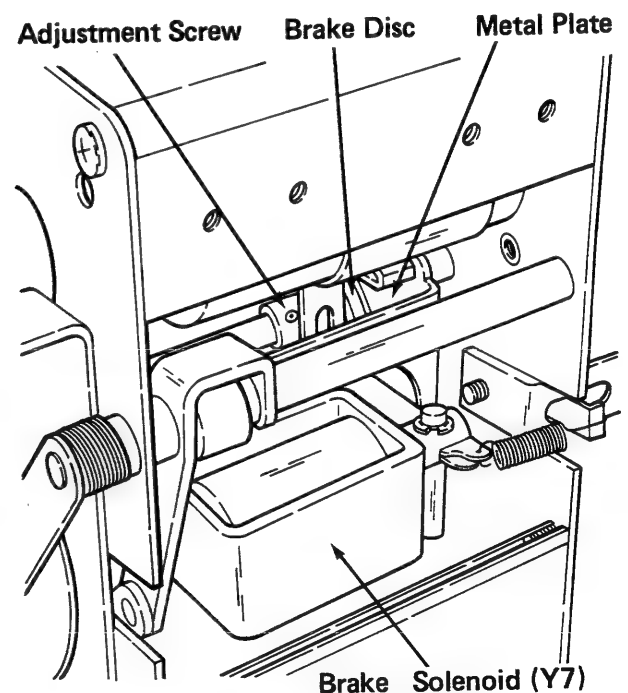

Figure 3-3A
12. Insert a 0.305 mm (0.012 in.) Feeler Gauge between the Metal Plate and the Brake Disc (Figure 3-3A). The gauge should be able to move with some resistance.
1. Loosen the Adjustment Screw for the Brake Disc (Figure 3-3A).
2. Pull the Brake Disc away from the Metal Plate by pulling the Plunger of the Brake Solenoid Y7 (Figure 3-3A) to the front and insert a 0.305 mm (0.012 in.) Feeler Gauge between the Metal Plate and Brake Disc.